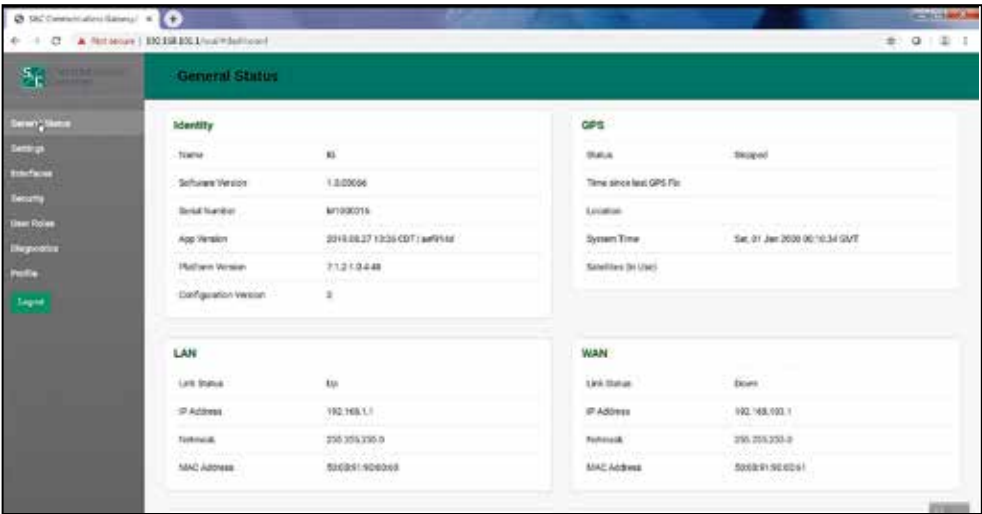
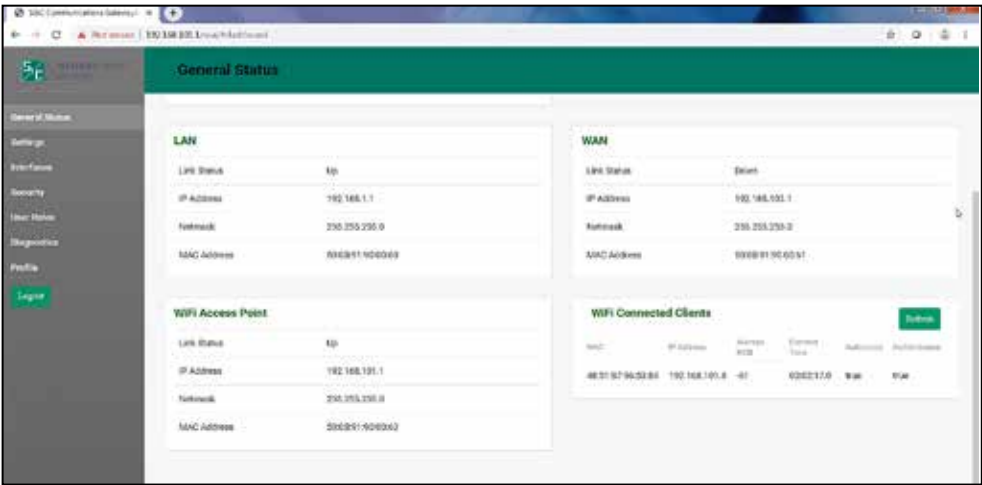

Figure 7. The top of the *General Status* screen.
Figure 8. The bottom of the *General Status* screen.
STEP 5. To skip this screen and keep the default password setting, click on an entry in the left menu. Figures 7 and 8 on page 11 show the *General Status* screen.
The *General Status* screen is comprised of the Identity, GPS, LAN, WAN, Wi-Fi Access Point, and Wi-Fi Connected Clients panels. The Identity panel contains six fields: **Name**, **Software Version**, **Serial Number**, **App Version**, **Platform Version**, and **Configuration Version**. The GPS panel contains five fields: **Status**, **Time Since last GPS Fix**, **Location**, **System Time**, and **Satellites (In Use)**. The LAN and WAN panels contain four fields each: **Link Status**, **IP Address**, **Netmask**, and **MAC Address**. See Figure 7. The Wi-Fi Access Point panel contains four fields: **Link Status**, **IP Address**, **Netmask**, and **MAC Address**. The Wi-Fi Connected Clients panel contains six fields: **MAC Address**, **IP Address**, **Average RSSI**, **Connect Time**, **Authorized**, and **Refreshed**. See Figure 8.